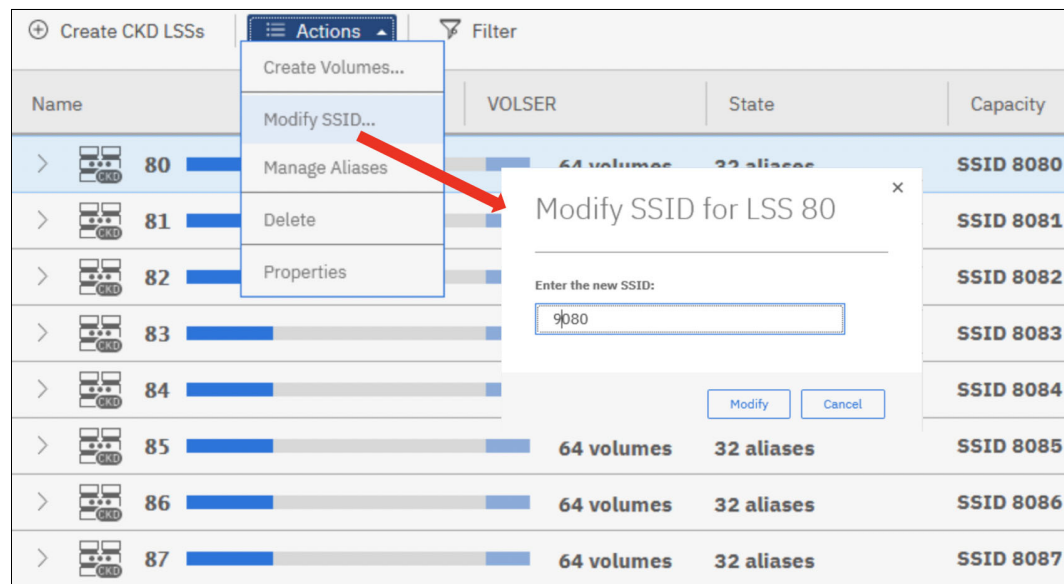

Figure 9-76 Modifying the CKD LSS SSID
- The unique SSID for each LSS is automatically determined by combining the SSID prefix with the ID of the LSS. The SSID can be modified if needed, as shown in Figure 9-76.